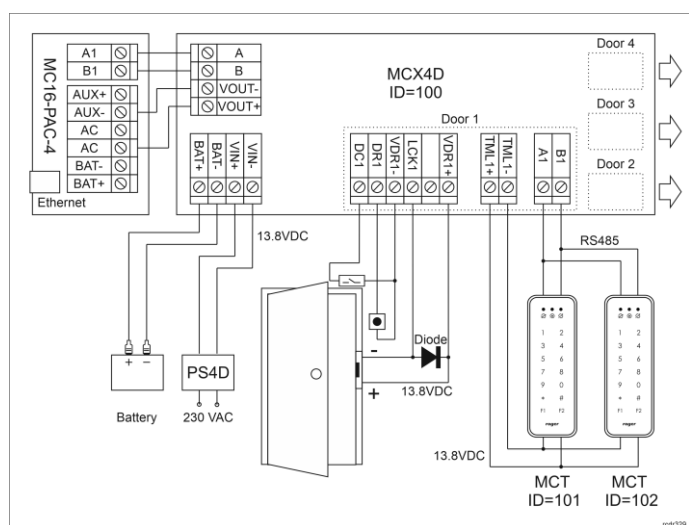

Fig. 2 Typical control of doors with MCT readers
- MC16 power supply should be ensured as in fig. 2. If VOUT+ terminal of the expander is connected incorrectly i.e. to the other AC terminal of MC16 controller then LED AC indicator on controller's board will be switched off.